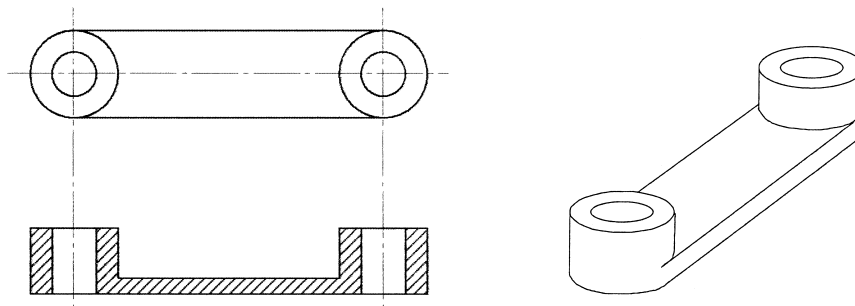

Figure 7
- (a) The drawings in **Figure 7** show the coupling rod from the wheel linkage mechanism. It is to be made of plastic (hdp). The manufacturing process to be used is injection moulding.